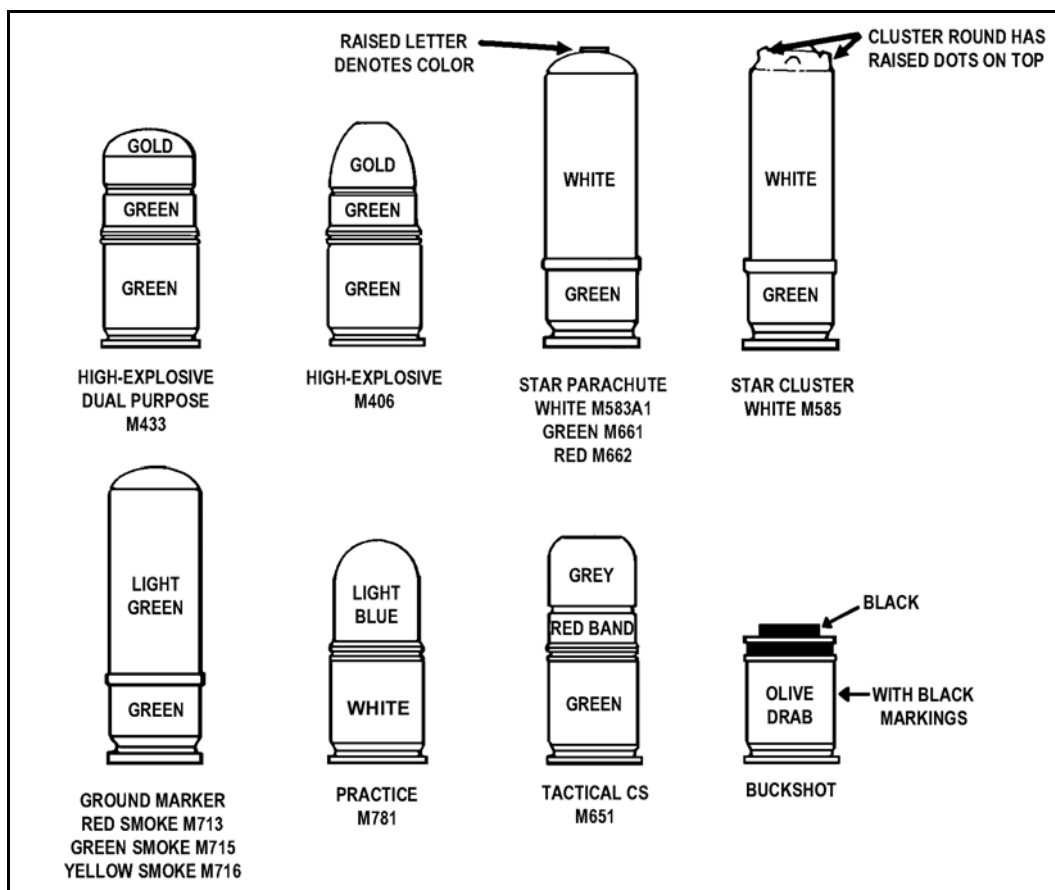

Figure 3-9. Cartridges for the M203 grenade launcher.
a. **Types, Characteristics, and Capabilities.** All M203 grenade launcher rounds are fixed rounds (Figure 3-9). (TM 43-0001-28 provides more details.)